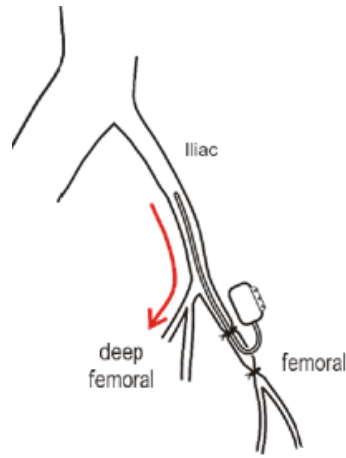

Figure 4. Catheter inserted with U-shaped bend
- Alternatively, a small intramuscular pocket can be created under sartorius muscle. The device is positioned so the catheter forms a gently “U” shape and the device tacked to the fascia of the underlying vastus medialis using the suture ribs (see Figure 4).